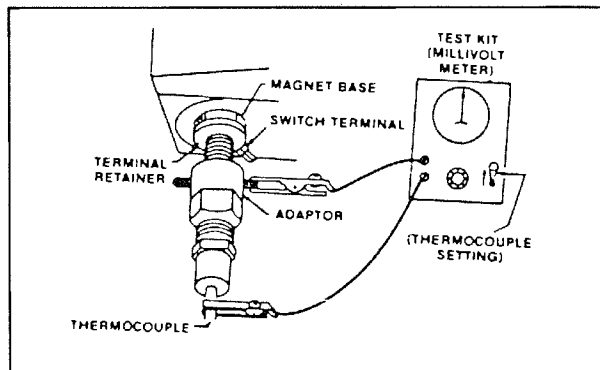

Fig. 2
- B. Connect Adapter No. 75036 and Test Kit as shown in Fig. 2, being sure connections are tight.
4. With adapter connected as in Fig. 2, check as follows: